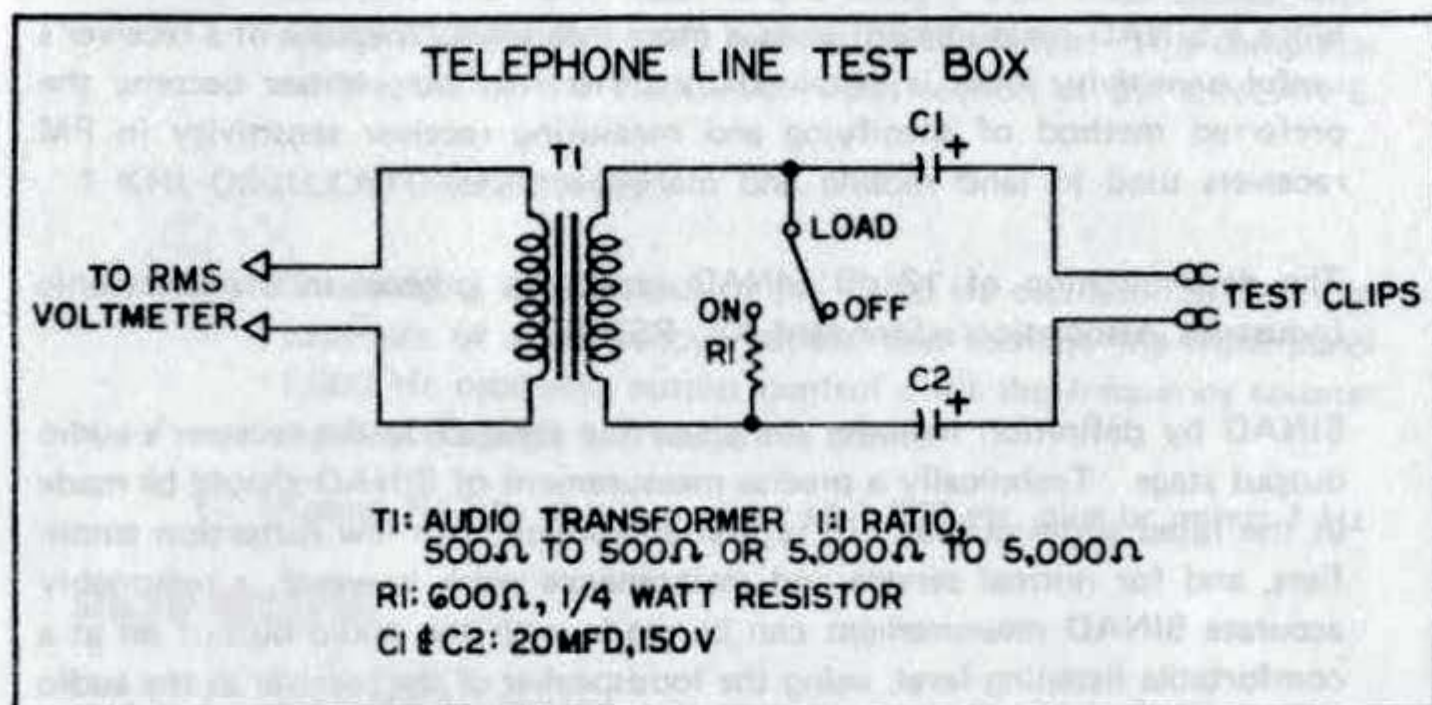

Figure 3
*Figure 3* shows the circuit of a simple telephone line test box that will be a big time saver. If you do much work with telephone control lines, we suggest you construct one.